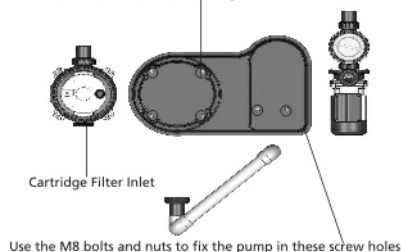
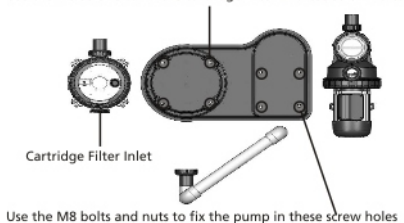

Figure 1
Figure 2
1. Use the M5 screws provided to fix the cartridge filter to the base, then use the M8 bolt and M8 nut to fix the pump to the base, see figure 1 and figure 2 for the correct orientation and screw position.